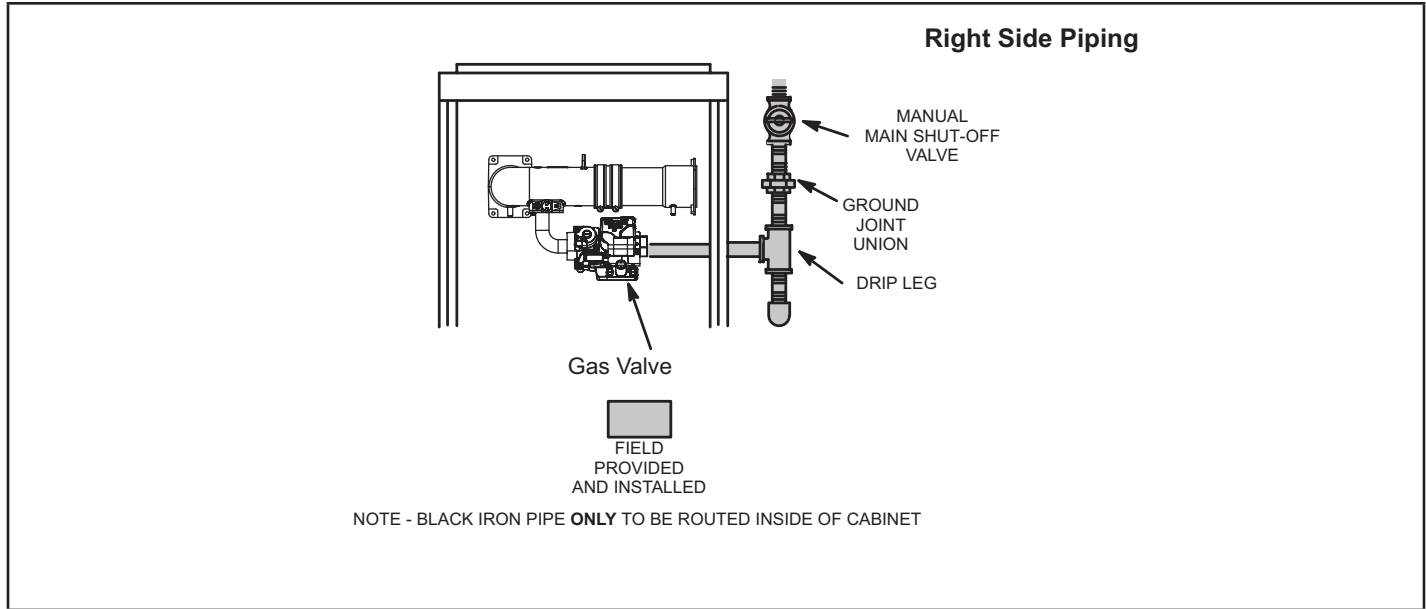
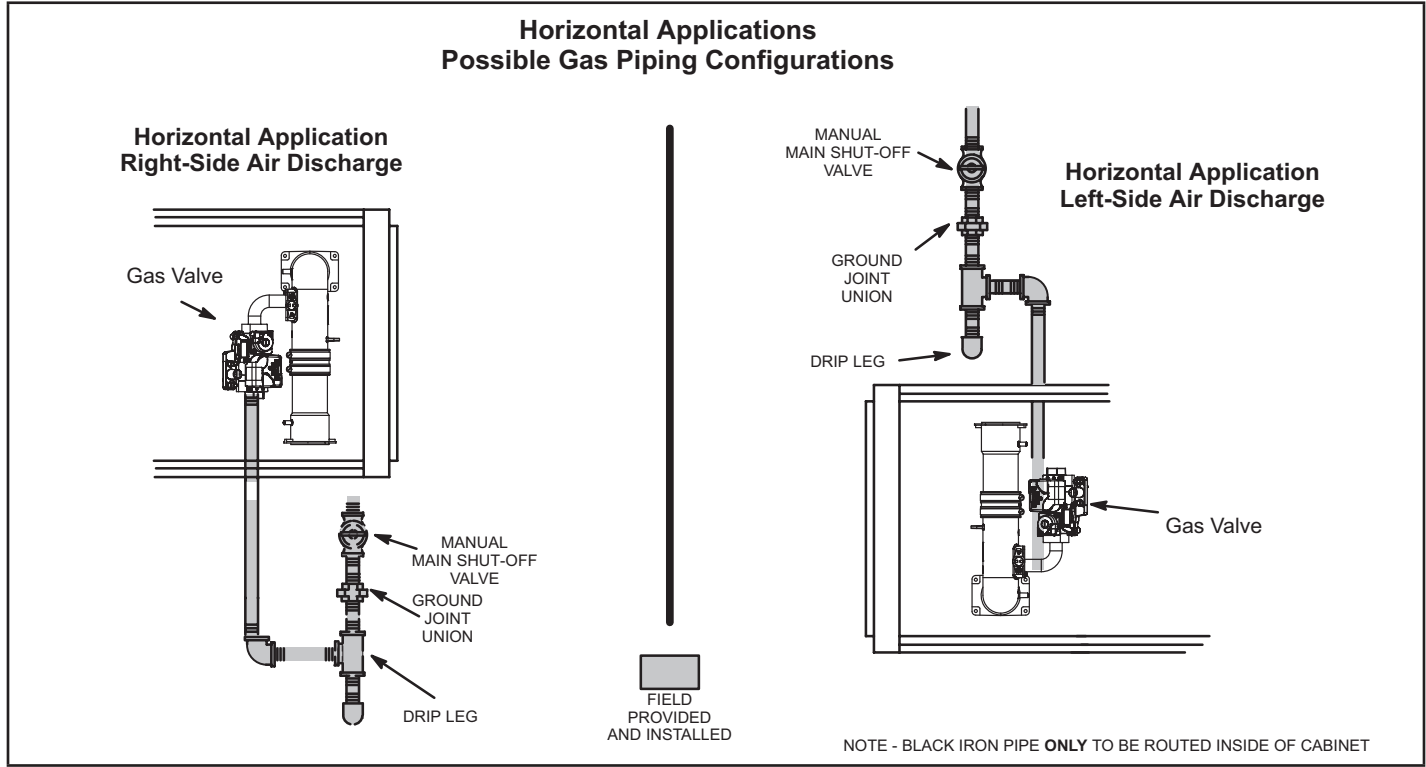

FIGURE 43
FIGURE 44
- 1 - Gas piping may be routed into the unit through the right-hand side only. Supply piping enters into the gas valve from the side of the valve as shown in FIGURE 43. Connect the gas supply piping into the gas valve. The maximum torque is 800 in lbs and minimum torque is 350 in lbs when attaching the gas piping to the gas valve.
- 3 - Gas piping must not run in or through air ducts, clothes chutes, chimneys or gas vents, dumb waiters or elevator shafts. Center gas line through piping hole. Gas line should not touch side of unit. See FIGURE 43 and FIGURE 44.